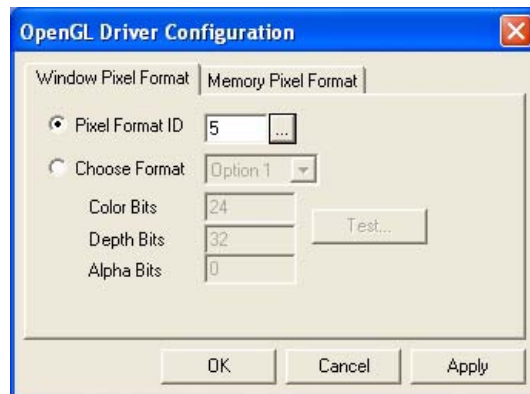

Figure 5-67: *OpenGL Driver Configuration* dialog box
4. In the OpenGL Driver Configuration dialog box (figure 5-67), select Pixel Format ID and enter this number.